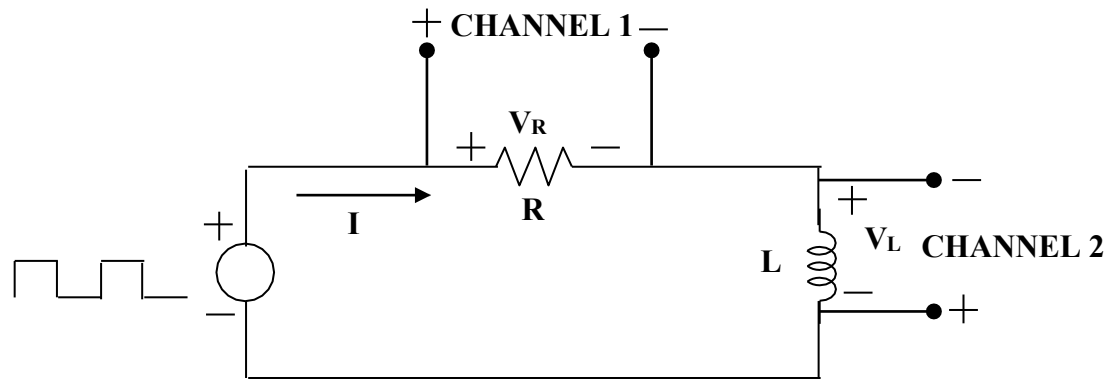

Fig.2
9. Disconnect Ch.1 and Ch.2 and reconnect them as shown in figure 2.